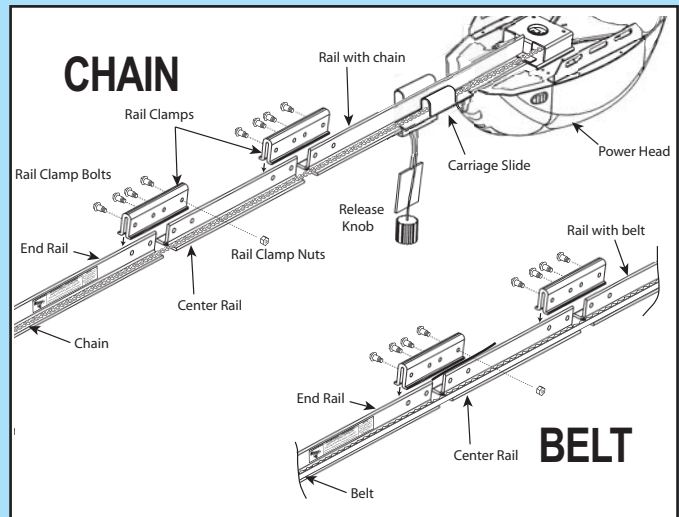

FIG. 1-3 Split Rail assembly.
- Align the three rail sections by pulling the chain straight and wrapping it around the chain tensioner pulley (Fig. 1-3 & 1-4).
- Attach the two rail clamps to the rail section joints with (4) bolts and nuts. After both rail clamps have been assembled to the rail sections, securely tighten the bolts and nuts.
- Align the three rail sections by pulling the belt straight and wrapping it around the tensioner pulley (Fig. 1-3 & 1-4).